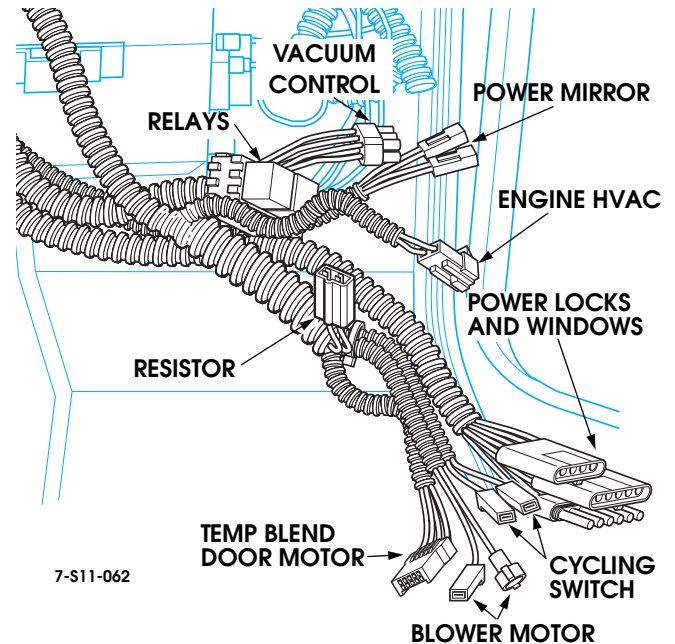

Figure 11-63: Harness/Connector Identification
14. Disconnect the vacuum motor harness, engine HVAC harness, water valve harness, temperature blend door connector, cycling switch connections, power mirror harness, resistor harness, power door lock harness, power window harness and blower motor connections (Figure 11-63).